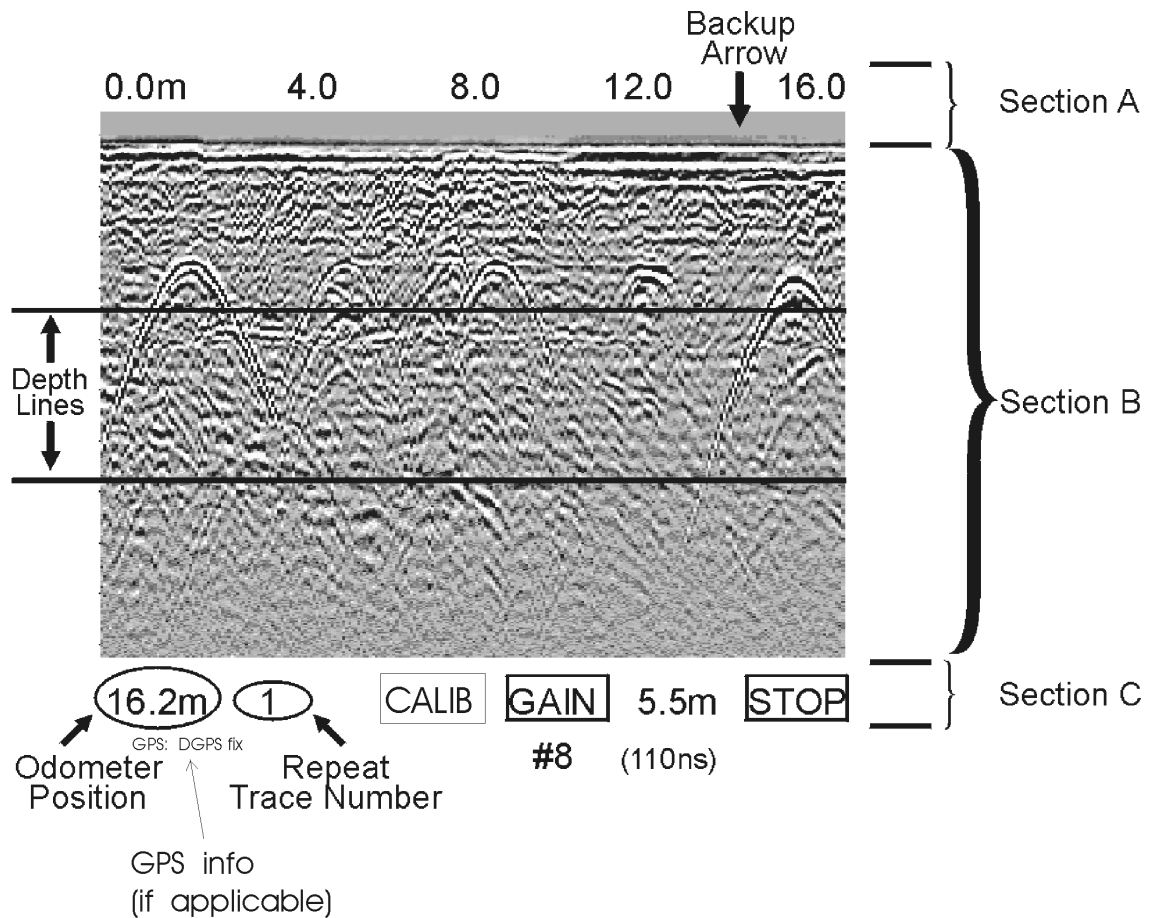

Figure: 5-1 Nogginplus Data Acquisition Screen
After acquisition has started, the Start button disappears and a Stop button (used to halt acquisition) appears on the right. A Gain button is also visible as well as the current Depth setting and equivalent Time Window length in nanoseconds (see Figure 5-1).
The data acquisition screen is shown in Figure 5-1. It is divided into 3 sections.
The Noggin screen is shown in Figure 5-1. It is divided into 3 sections. The very top section (Section A) positioning information. The center section (Section B) contains the actual data and the bottom section (Section C) contains the menu.
Each data trace is plotted as a vertical strip on the screen (see Figure 5-1). The width of this strip can be changed to 1, 2, 4, or 8 pixels (see Plot Interval on page 78). The normal trace width for Noggin 250 traces is 2 pixels while the normal width for Noggin 500 and Noggin 1000 systems is 1 pixel.
During data acquisition, the current odometer position value (in the current units, either metres or feet) is written to the lower left corner of the screen (see Figure 5-1).
On the lower part of the data acquisition screen, beside the current odometer position value is a single digit number that usually displays one (1) (see Figure 5-1). This value is the Repeat Trace number.
The odometer also allows the user to stop the Smart System in the middle of a survey line and back up. When this is done, an arrow and vertical line appear on the data image and move back along the image as the system moves backwards (see Figure 5-1). This makes it possible to correlate a target in the data image to an exact location on the ground. Once the arrow lines up with the target, mark the ground at the centre point of the Noggin.